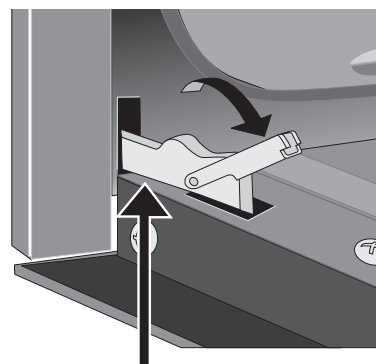

Figure 40: Unlock hinges to remove door
2. Pull the hinge locks on both left and right hinges down from the oven frame completely towards the oven door (Figure 40). A tool such as a small flat-blade screwdriver may be required.